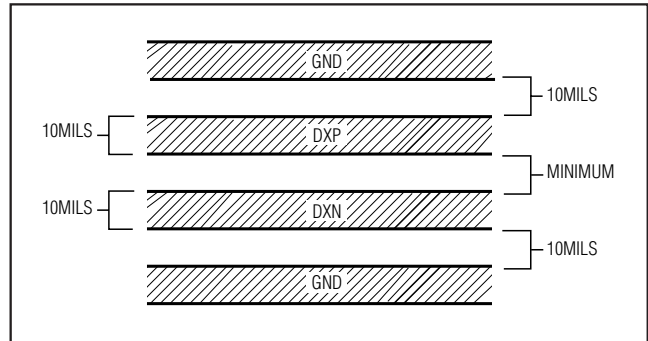

Figure 4. Recommended DXP-DXN PC Traces
- 3) Route the DXP and DXN traces in parallel and in close proximity to each other, away from any higher voltage traces, such as 12V DC. Leakage currents from PCB contamination must be dealt with carefully since a 20M $\Omega$  leakage path from DXP to ground causes about 1°C error. If high-voltage traces are unavoidable, connect guard traces to GND on either side of the DXP-DXN traces (Figure 4).
- 6) Use wide traces. Narrow traces are more inductive and tend to pick up radiated noise. The 10mil widths and spacing recommended in Figure 4 are not absolutely necessary, as they offer only a minor improvement in leakage and noise over narrow traces. Use wider traces when practical.